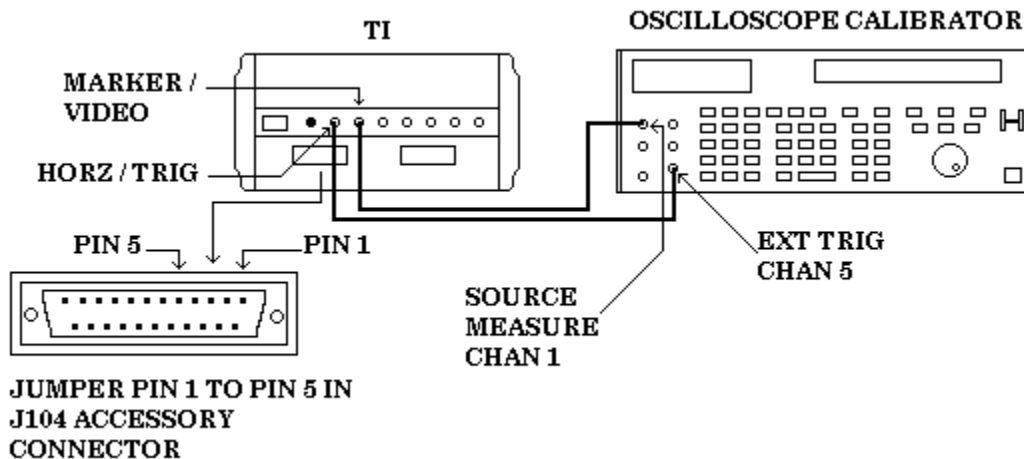

Figure 6. Sweep time adjustment setup.
- (1) Press and release TI spectrum analyzer **POWER** key to **OFF**.
- (2) Disconnect all connections made to TI spectrum analyzer.
- (3) Set TI spectrum analyzer on front panel.
- (4) Loosen four screws through back rubber feet.
- (5) Pull cover up and off.
- (6) Place TI on bottom and reconnect power cord.
- (7) Depress TI spectrum analyzer **POWER** key to **ON**.
- (8) Connect equipment as shown in figure 6 below.